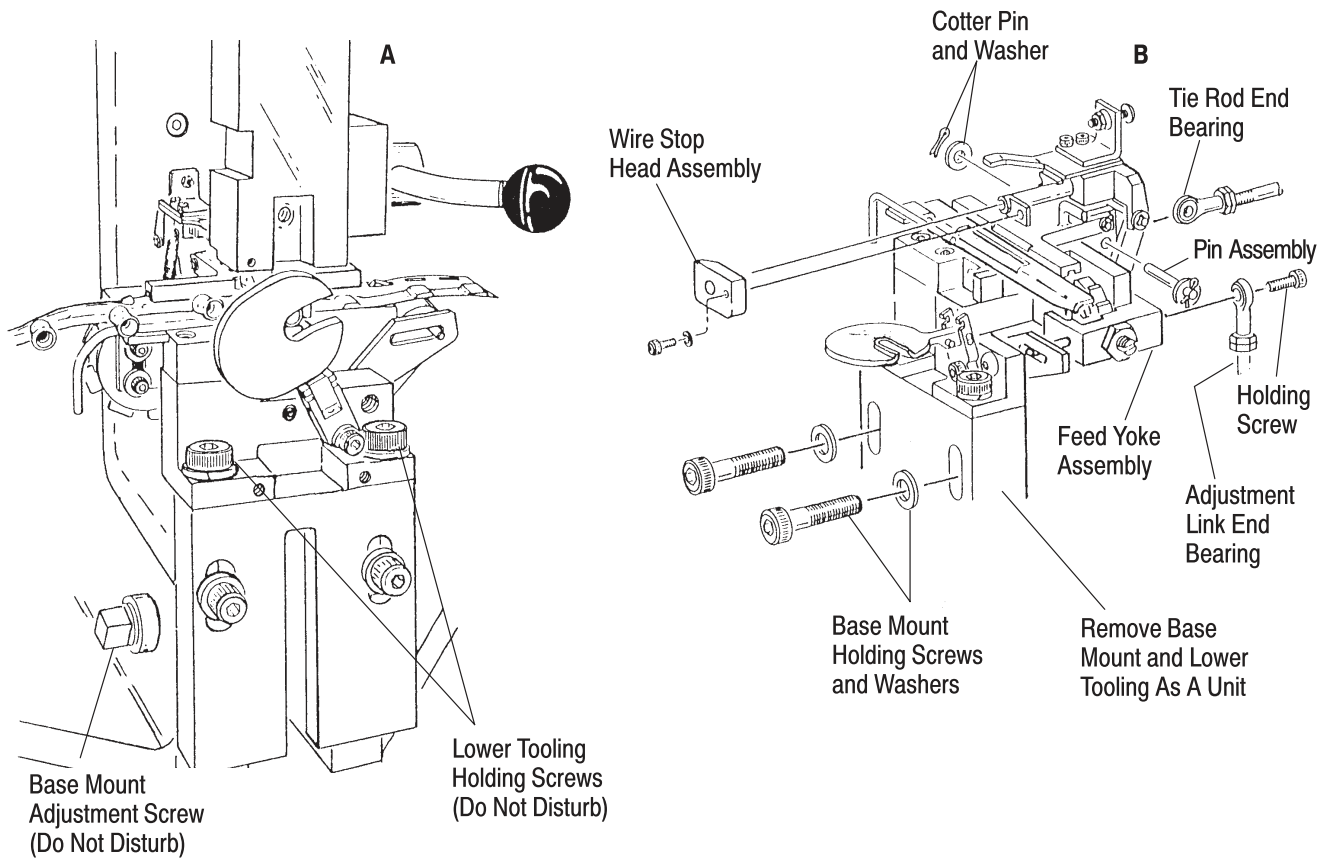
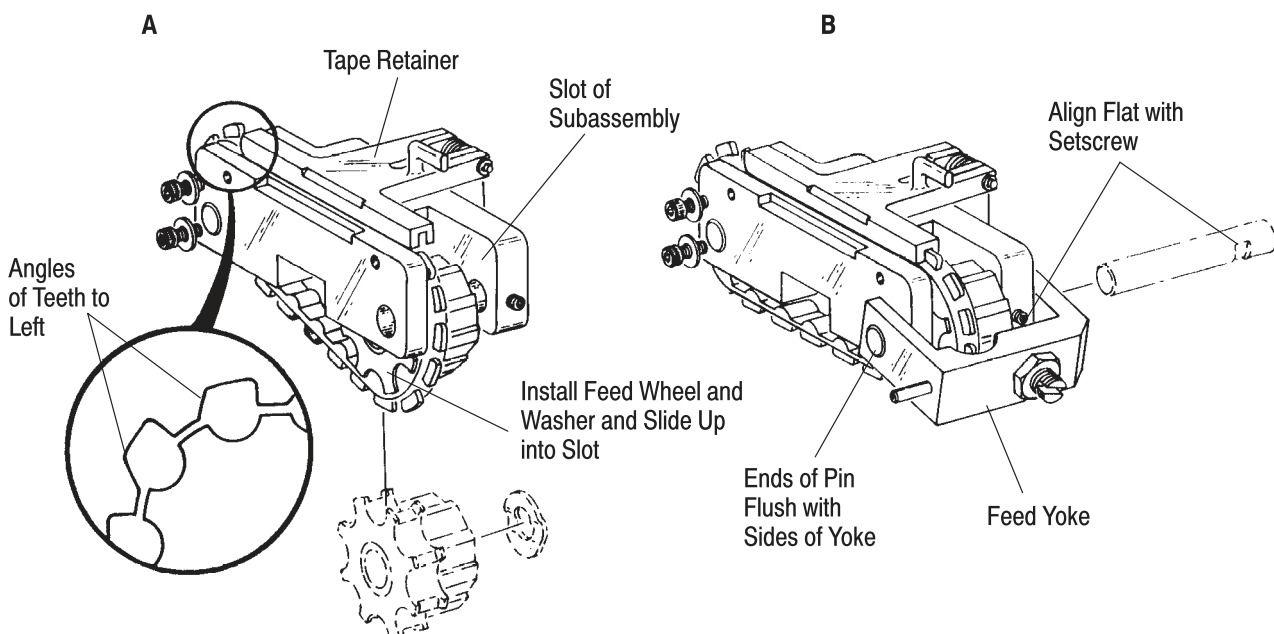

Figure 29
Figure 30
5. Remove one cotter pin and washer, then remove pin assembly from the tie-rod end bearing. Refer to Figure 29,B.
DO NOT disturb the lower tooling holding screws or the base mount adjustment screw, or damage to dies may occur. Refer to Figure 29,A. These screws are factory adjusted, and they control the die alignment and bottoming. If the screws are disturbed, contact an AMP Field Service Engineer, or call the Technical Assistance Center for alignment and adjustment.
7. Remove base mount holding screws and washers as shown in Figure 29,B, then remove the lower tooling as a unit, as shown.
8. Loosen screws (104) and remove the terminal guide (20).
9. Remove screw (103) and remove metal guard (31).
10. Remove screw (53) and washer (47), then remove wire stop support assembly (11) as a unit.
11. Remove front clamp plate (9) containing pin (117) by removing two screws (46) and washers (47), then remove spring (99) while sliding index unit subassembly off of slide mount (23).
12. Remove the belt holddown (34) by removing two screws (63) and washers (64).
13. Pivot the feed yoke assembly (42) downward to gain access to setscrew (72), then loosen the setscrew. See Figure 30, B.
14. Remove special pin (33), washer (54), and feed wheel (32) from the bottom of of the subassembly.
15. Lift the tape retainer (18) and remove old tape feed belt (30).
16. Install new tape feed belt by lifting tape retainer on indexing unit, being sure that angled portion of the belt teeth are to the left of the indexing subassembly assembly as shown in Figure 30,A.
17. Slide the feed wheel, washer, and belt up into the slot of subassembly, then align pin holes and insert special pin. Align flat on pin with setscrew, then tighten the setscrew. The ends of the pin must be flush the sides of yoke, as shown in Figure 30,B.
18. Install belt holddown (34) with two screws (63) and washers (64).
19. Slide the indexing unit subassembly all the way onto slide mount (23): pin inside of yoke (42) must enter slot in connecting link (28).
20. Lay spring (99) in bottom recess in slide mount (23), then compress spring with screwdriver while installing front clamp plate (9) with two screws (46) and washers (47). Release spring to butt against pin (117) in clamp plate.
21. Slide the wire stop support assembly (11) onto slide mount (23) and install screw (53) with washer (47).
22. Install terminal guide (20) and tighten screws (104).
23. Install metal guard (31) with screw (103).
24. Install assembled base mount and lower tooling against machine base and secure with two screws and washers as shown in Figure 29,B. Refer to the CAUTION after Step 6.